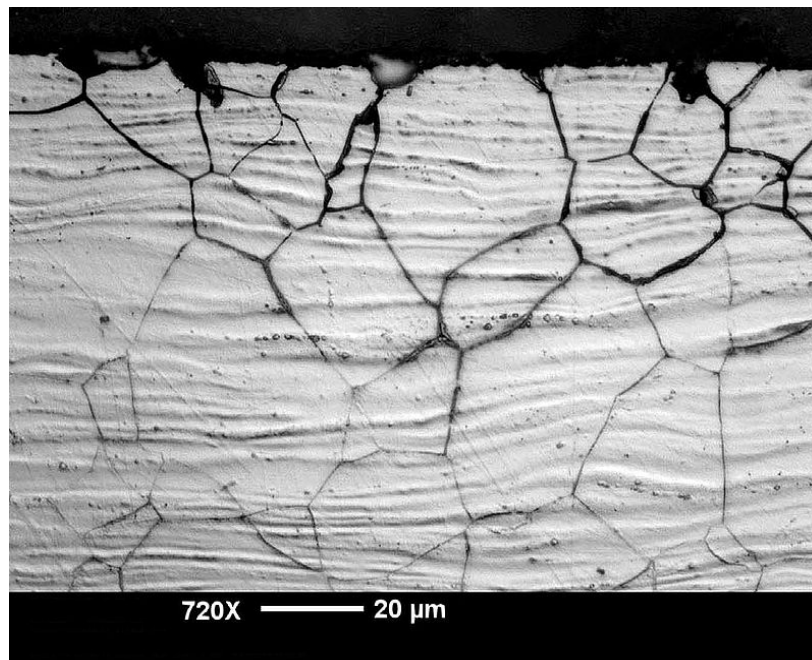

Figure 17. Picture of Carbide Precipitation in Stainless Steel
**Carbide Precipitation** is a type of cracking that takes place in stainless steels (Figure 17). Stainless steels are known for their resistance to corrosion. This resistance to corrosion is due to the presence of chrome nickel in the base metal. When working with stainless steels, we must be very mindful of the heat input into the base metal as adverse effects can be seen when overheated. Overheating can be very evident in the colors of the base metal. When welding on stainless steel, we are trying to maintain a nice golden brown color in the weld or a very light rainbow color spectrum. When we start seeing darker colors such as blues, purples, and blacks, we risk overheating materials and creating this carbide precipitation. In its simplest sense, when we overheat the material we weld, we force the chromium away from the heat affected zone and push it out into the base metal. When this takes place, the chromium is not in the heat affected zone, therefore the heat affected zone loses the corrosion resistance characteristics and can corrode rapidly causing the area next to the weld to oxidize, rust, and fail. The chromium, as it pushes out into the base metal, can cause the formation of carbides which are very hard materials.